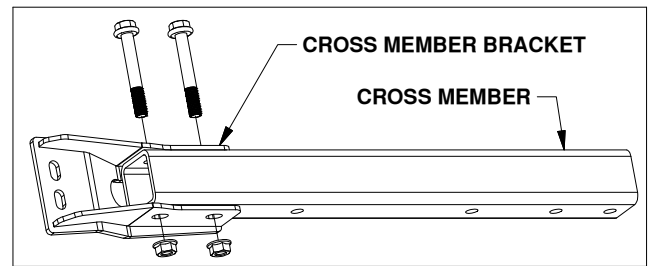
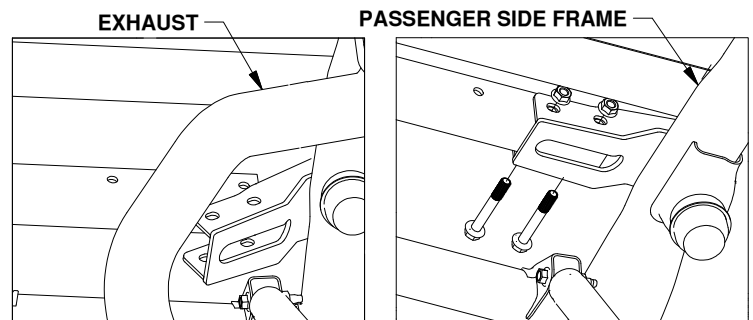
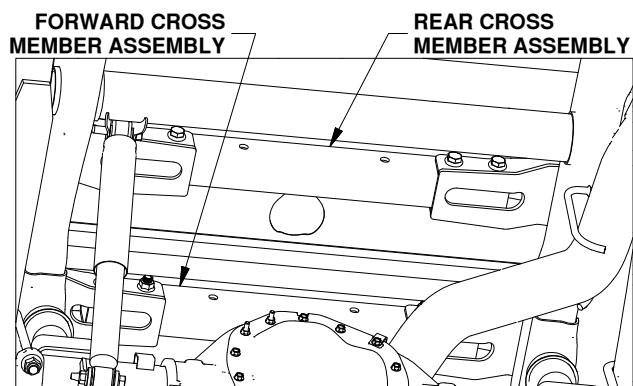

Figure B2: Cross member and bracket assembly.
Figure B4 & B5: View looking up at bottom of bed over axle.
Figure B6: View looking up at bottom of bed over axle.
3. **Forward cross member assembly.** Attach the cross member bracket to the cross member by passing the 5/8" bolts through the two parts, as shown in Figure B2. Align the bolts so they are centered in the cross member brackets slots. Attach each bolt with a 5/8" flange nut. Push the cross member tightly into the cross member bracket so there is no gap between the two parts. Tighten and torque the 5/8" nuts to 150 ft. lbs.
5. **Complete the cross member assembly.** Pass a cross member bracket between the exhaust and the passenger side of the frame, see Figure B4. The flat end of the cross member bracket will go over the frame and the other side will bolt up to the cross member. Bolt the two parts together so the connections match the other side of the cross member. Once assembled move the cross member assembly so its just forward of the mounting holes in the frame, see Figure B5. Hand tighten hardware only at this time.
6. **Place the rear cross member.** Attach another cross member bracket to the remaining cross member as shown in Figure B2, leave the 5/8" bolts loose. Position the cross member behind the bed cross member and 4" hole drilled in the bed, see Figure B6. Attach a second cross member bracket to the cross member as shown in Figures B4 & B5. Hand tighten hardware only at this time.